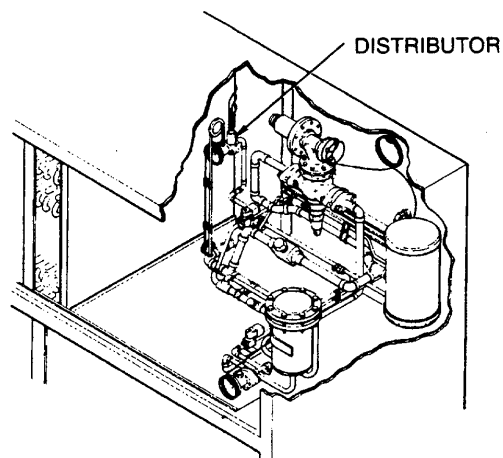

Figure 5-32. Distributor
1. Check for signs of leakage (see Figure 5-32). Leak test if leak is suspected (para 5-15).